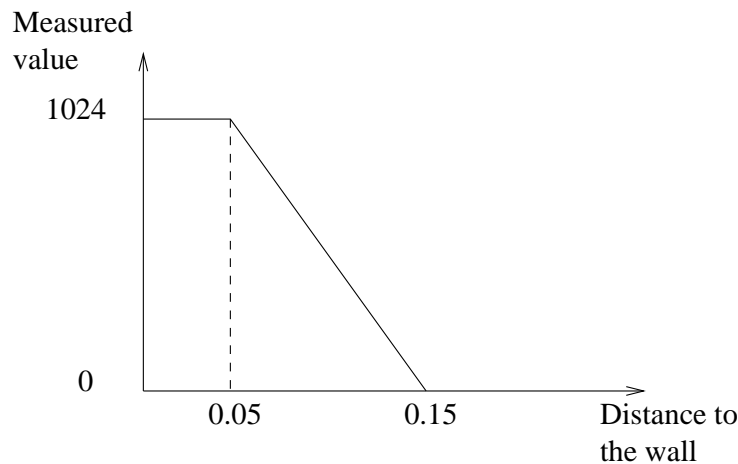

Figure 4.9: Distance measurements of the *kiki* sensors.
7. In the DistanceSensor node, you must introduce some values of distance measurements of the sensors to the `lookupTable` field, according to figure 4.9. These values are: